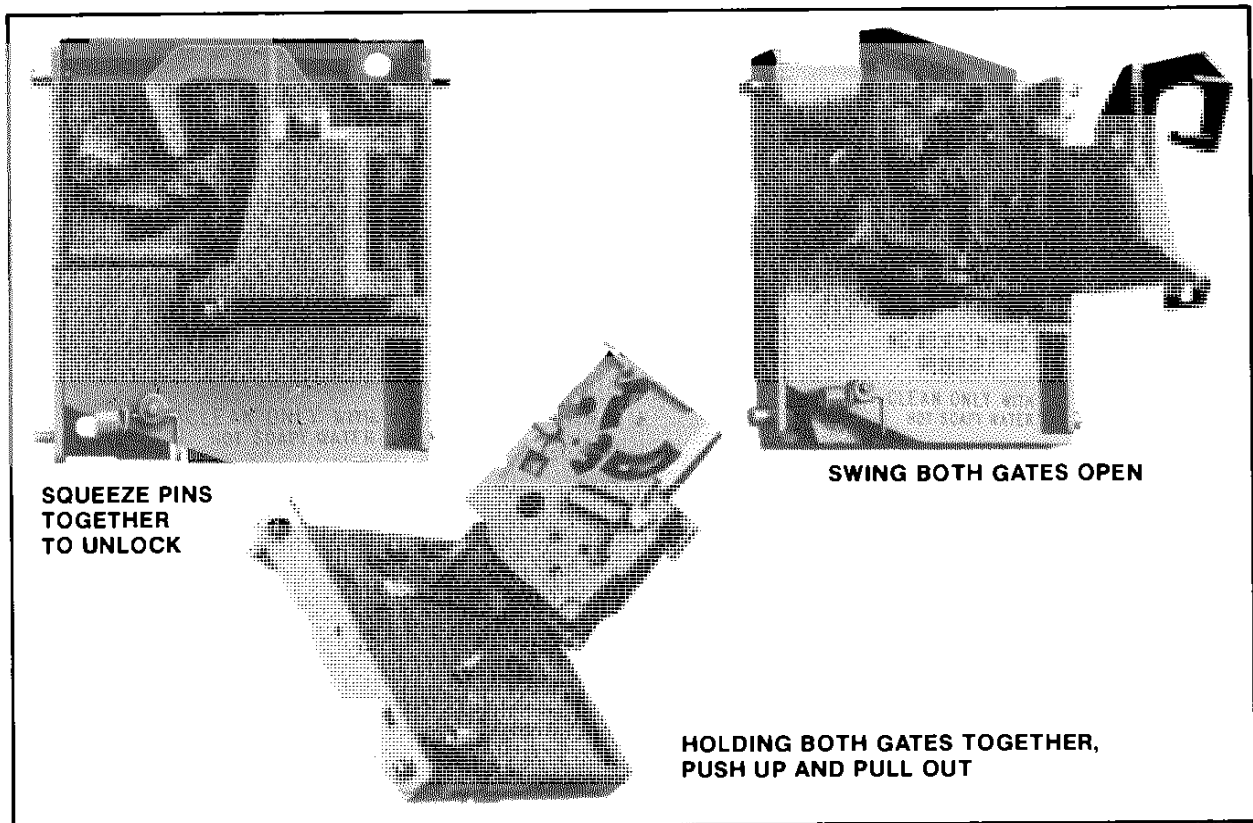

Figure 5-4 Opening the Plastic Coin Acceptor
4. Squeeze the two pins indicated in Figure 5-4 together to open the mechanism and break it down into its three basic parts.